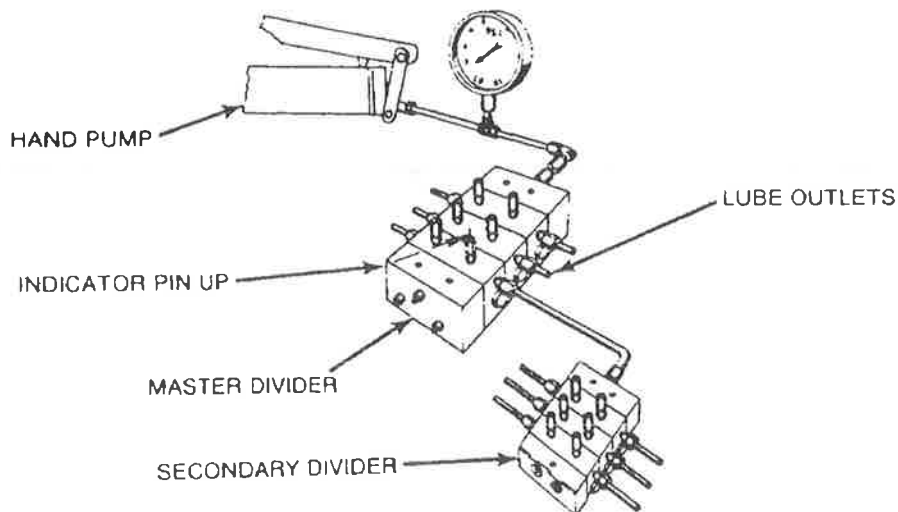

Figure 2-9. Purging Air From Divider Block
2. Remove one alternate outlet plug from the master and connect a manual oil pump to the alternate outlet. (This pump is available from Dresser-Rand. See Figure 2-9.)